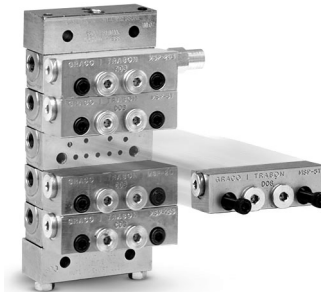

FIG. 3
1. The MSP Divider Valves require assembly (FIG. 3).
- b. Assemble metering valves to base plates as shown in FIG. 3.